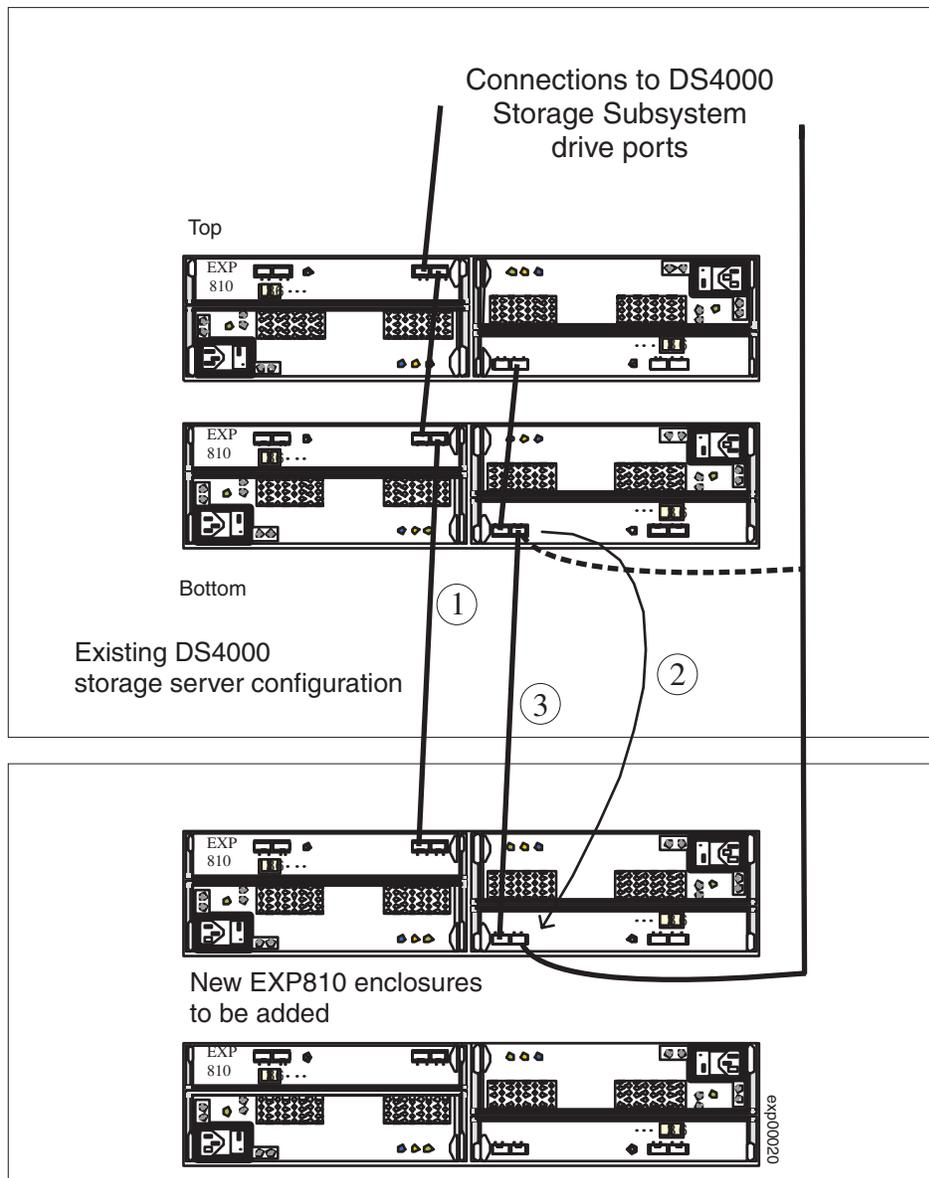

Figure 27. Cabling an EXP810 to the end of a functioning drive loop
- End (bottom) of a drive loop, see Figure 27 on page 80.
**Note:** The port name on an EXP810 is not labeled IN. See Figure 27 on page 80 for details.
**Note:** The port name on an EXP810 is not labeled OUT. See Figure 27 on page 80 for details.